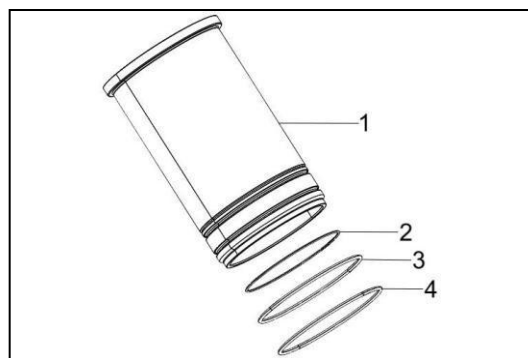

Figure 99
4. Disassemble the O-rings from the cylinder liner (Figure 99).